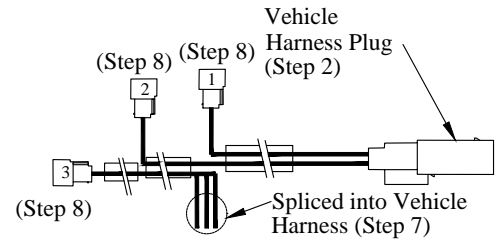

Figure 5: New sensor harness.
- 2. Plug** new sensor harness into vehicle wire harness (Figure 5).
- 7. Splice** sensor harness into vehicle harness at location "A", matching wire color (Figure 5).
- 8. Plug** sensors into new sensor harness (Figure 5).